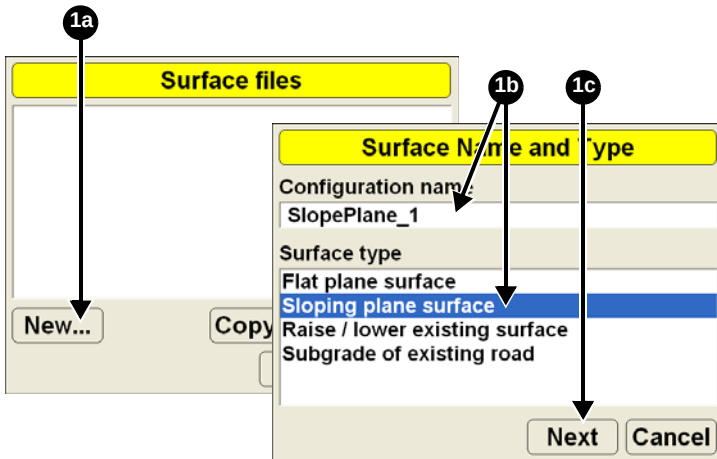

Figure 3-22. Create New Surface File
1. Press **Topcon Logo** ► **File** ► **Surfaces** ► **Working** or **Reference** and press **New**. Enter and select the following information for the new surface file. Press **Next** (Figure 3-22).